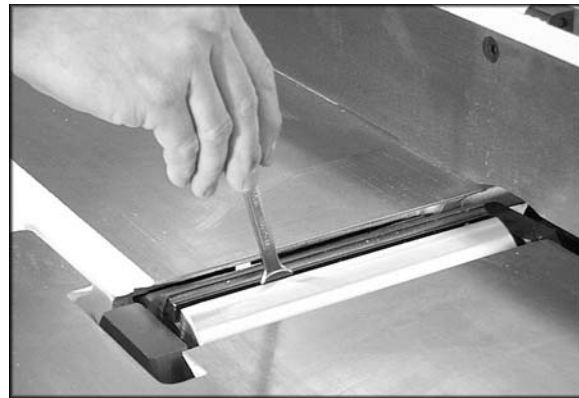
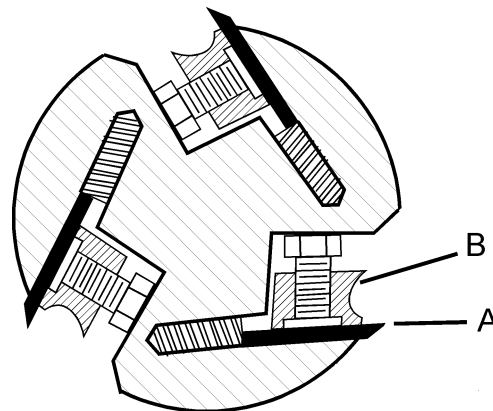

Figure 24
Figure 25
3. Loosen the five lock screws (Fig. 24). Note: Loosen screws by turning in a clockwise direction as viewed from the infeed table. Carefully remove the knife (A, Fig. 25), and the lock bar with screws (B, Fig. 25). Repeat for the other two blades.